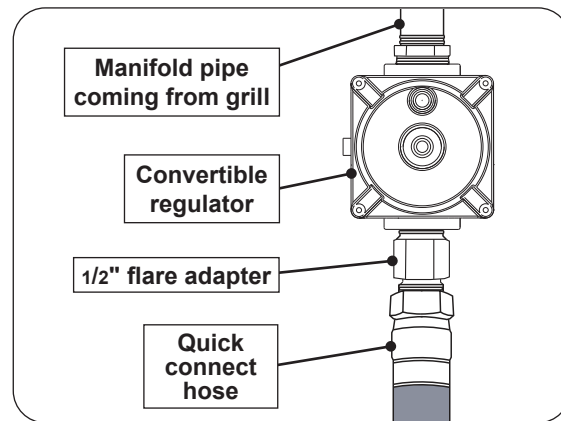

Fig. 5-1 Locate natural gas connections
2. Locate the gas connections inside the left door of the grill cabinet (Fig. 5-1).